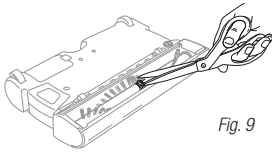

Fig. 9
- 3 Remove all hair, string or fibers wrapped around the brush bar. Using a pair of scissors, carefully cut along the raised guide to remove anything wound around the brush bar. Avoid damaging or cutting the bristles. (Fig. 9)